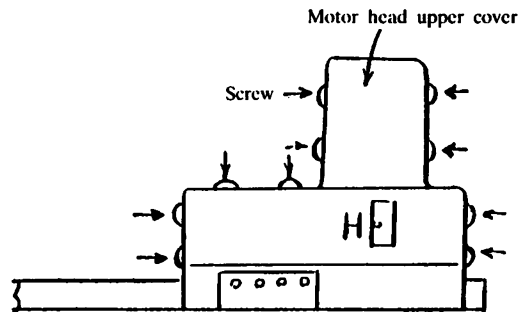

Fig. 2
- (1) Set the speed change knob on H position.
- (2) Loosen the ten screws (Round head with washer 3×8, 10 pcs.) so that the screw head is 1 mm from the cover. (Refer to Fig. 2)